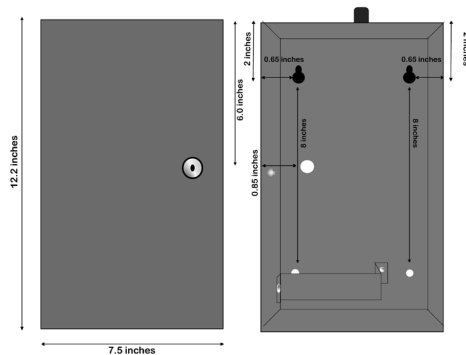

FIGURE 2:
Position the bottom of the 4550-CF enclosure where it will be installed. Use four (4) #6 screws and mount the unit using the four holes in the enclosure's back. The 4550-CF unit's dimensions are shown in Figure 2.